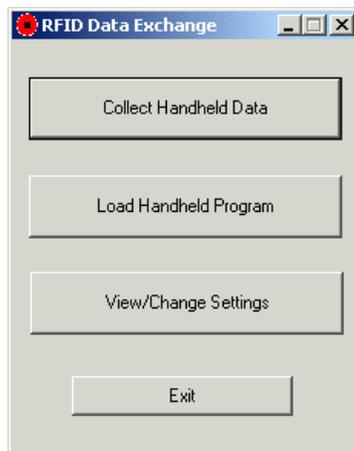

Figure 9. Asset ID Starter Kit main window
1. Start the Asset ID Starter Kit application. Figure 9 appears: